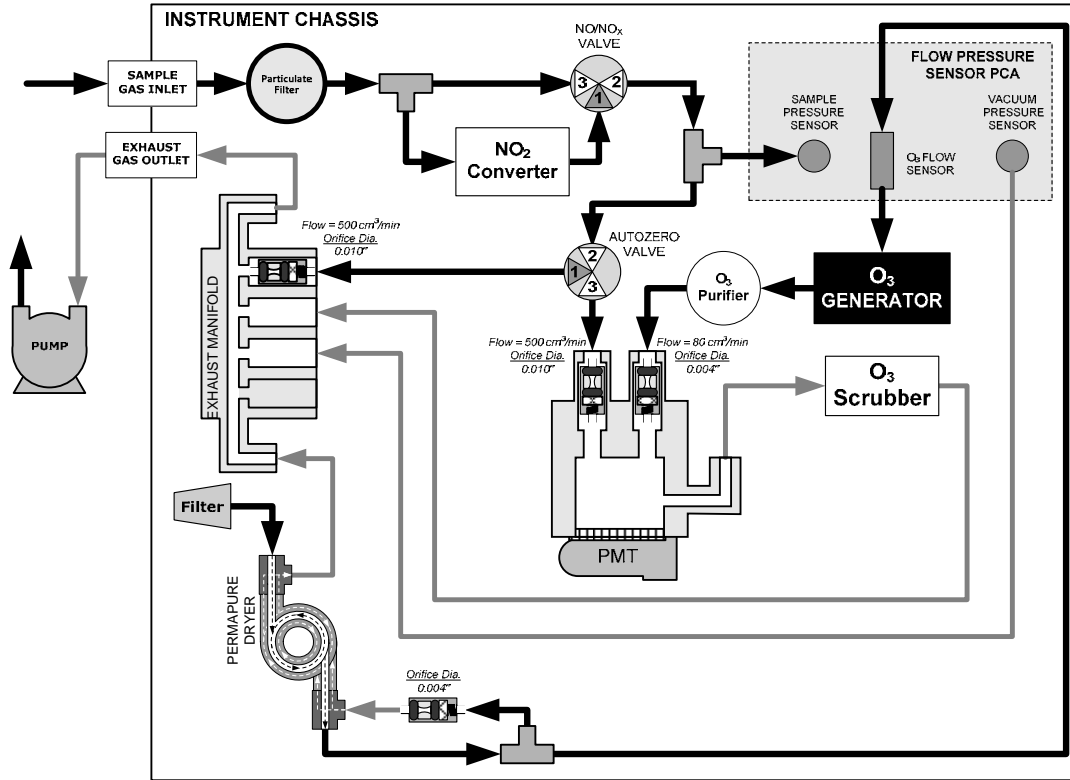

Figure 12-5: Internal Gas Flow for Basic T200 with External Pump
- An external pump pneumatically connected to the analyzer's exhaust port located on the rear panel. This is the most common configuration for the T200 (see Figure 12-5), or;